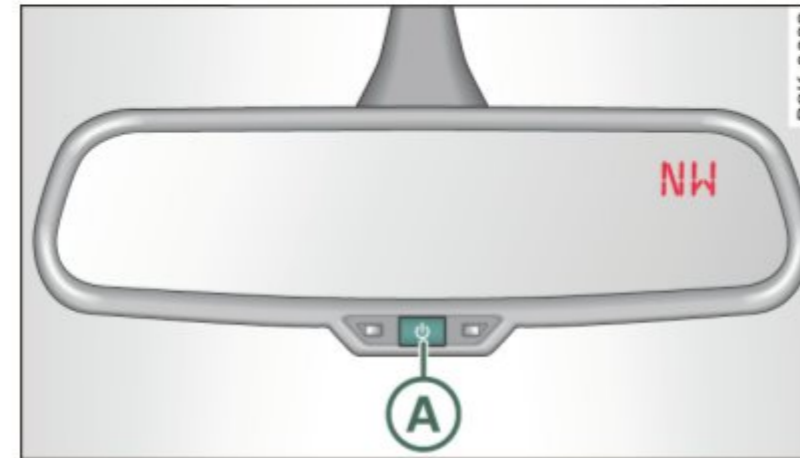

Fig. 73 Inside rear view mirror: digital compass activated
- Hold the **(A)** ⇒ *page 76, fig. 73* button down until the number of the set magnetic deflection zone appears on the interior rear view mirror.